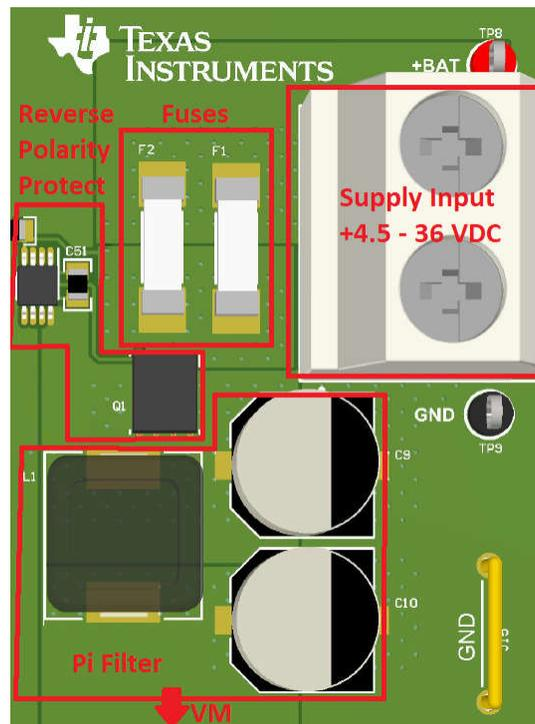

Figure 2-4. Main Supply Section
Figure 2-4 illustrates the portions of the EVM associated with the main supply input powering the DRV824x-Q1, DRV826x-Q1, DRV814x-Q1, or DRV816x-Q1 device, and the associated loads. Starting from the upper-left, and working clockwise around the image:
3. With the +BAT external supply outputs disabled, connect +BAT supply to the screw terminals on the EVM (J14), observing polarity (Figure 2-4).